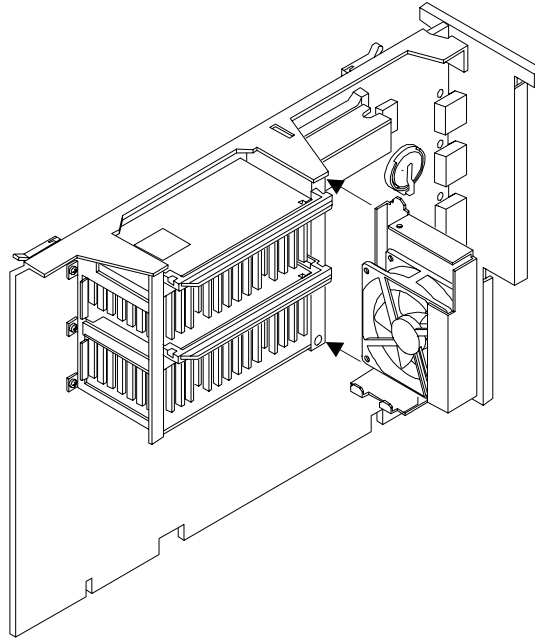

Figure 1. Installing a New Fan
8. To install the new fan, connect the 3-pin connector. Make sure the wires are not crushed. Line up the two slots on the bottom and the one slot on the top of the unit. Line up the screw hole on the top of the fan unit. Support the fan tray with one hand while putting in the screw. Make sure the wires do not obstruct the fan's airflow. See Figure 1 below.
6. To install the new fan, connect the 3-pin connector on the fan unit. Make sure the wires are not crushed. Line up the two slots on the bottom and the one slot on the top of the fan unit. Line up the screw hole on the top of the fan unit. Support the fan tray with one hand while putting in the screw. Make sure the wires do not obstruct the fan's airflow. See Figure 1.